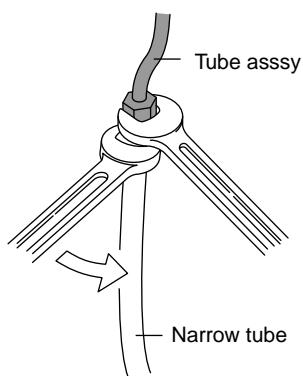

Fig. 10
- (7) Connect the narrow tube (3/8") between the units. When tightening the flare nut, use the double-wrench method. (Torque: 300 to 340 lbs.-in) (Fig. 10)
- (8) After completing the tubing work, check that the tube assy is not in direct contact with the 3/4" tube.